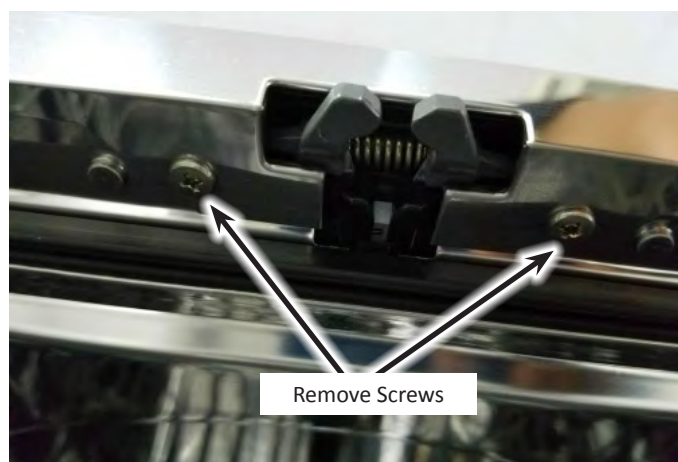

Figure 2
3. Using a Phillips screwdriver, remove the two (2) screws securing the door switch assembly to the cabinet. See Figure 2.